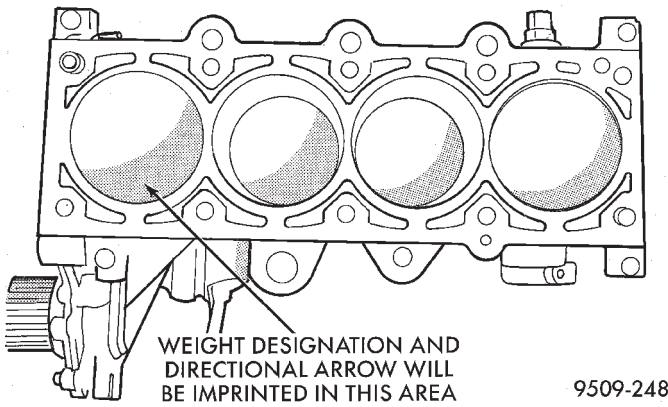

Fig. 114 Piston Markings
- (1) Remove top ridge of cylinder bores with a reliable ridge reamer before removing pistons from cylinder block. **Be sure to keep tops of pistons covered during this operation**. Mark piston with matching cylinder number (Fig. 114).
- (3) Pistons will have a stamping in the approximate location shown in (Fig. 114). These stamps will be either a directional arrow or a weight identification for the assembly. L is for light and H is for heavy. These assemblies should all be the same weight class. Service piston assemblies are marked with a S and can be used with either L or H production assemblies. The weight designation stamps should face toward the timing belt side of the engine.
should face toward the front of the engine for DOHC engine (Fig. 114).